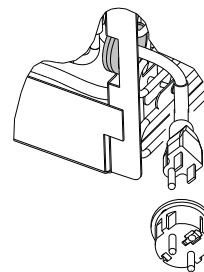

Figure 26: Remove adapter from power cord (230 VAC models Only)
- a. **230 VAC Models Only** – Remove the AC Plug adapter from the end of the power cord by first cutting away the plastic heat shrink tubing. Then pull the adapter off, leaving just the North American 115 VAC plug (Figure 26).